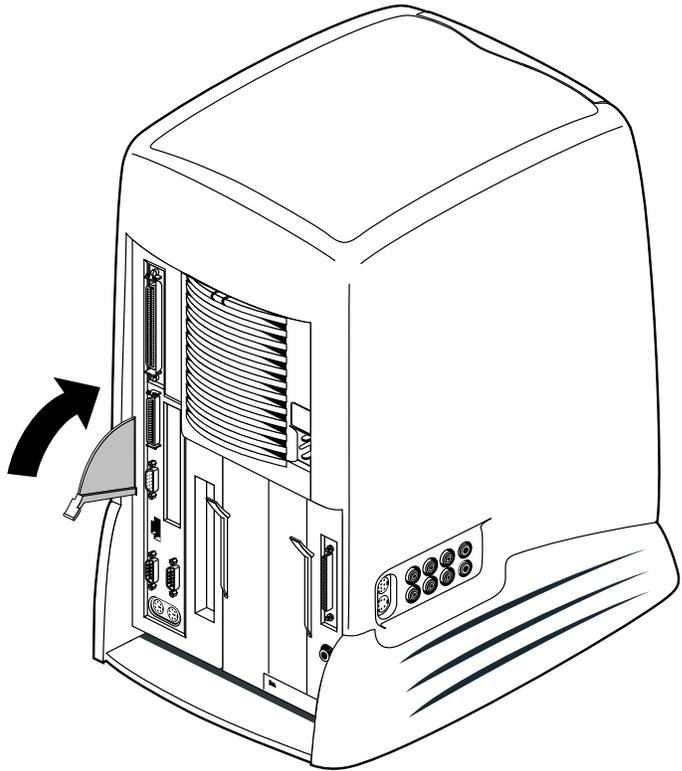

Figure 1-25 Securing the System Module in Place
- 2. Push the lever up to lock the module in place (Figure 1-25). If the module is installed correctly, the lever is all the way up and the system module is flush with the system drive module and other modules.